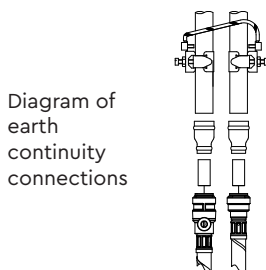

Fig. 12
- 4.15 **Adjacent pipes:** Adjacent suction and delivery pipes should be fitted with earthing clamps in accordance with current regulations (Fig. 12).